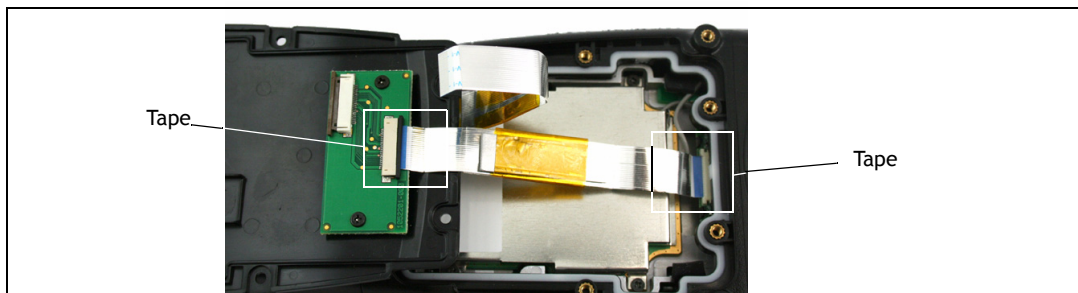

Figure 4 EV15 & SE955 - Inserting The Flex Cable Assembly & Adding Kapton Tape
16. Remove the Kapton tape from the release liner. Apply one piece over the end of the flex cable and the scanner/imager's flex connector. Apply the other piece over the other end of the flex cable and the backplate flex connector, as shown in Figure 4. This secures the flex cable at both ends.